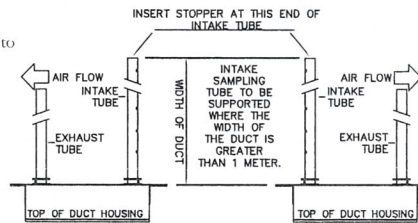

FIGURE 2 SAMPLING TUBE ORIENTATION
The Duct Detectors are designed for use in ducts where the air velocities are from 91 to 1219 meters per minute. Verify this by checking specifications of installation and if necessary, use an Anlor Model 6000P velocity meter (or equivalent) to check the air velocity. See Figure 2 for sampling tube orientation to air flow direction.
C. SAMPLING TUBE ASSEMBLY (See Figure 2)
The sampling tubes are supplied in one standard lengths and cut per requirements. **NOTE:** The length of the exhaust sampling tube is to be cut to 70% of the length of the inlet sampling tube. The intake sampling tube consists of a piece of steel piping with a series of holes drilled the entire length of the tube and should extend the entire width of the duct. The holes must be facing into the air flow (see Figure 2).
D. MOUNT SAMPLING TUBES (See Figure 2)
- Sampling tube connectors are equipped with set screws, which allow the tubes to be mounted only in directions shown in Figure 2. Establish proper orientation considering airflow direction.